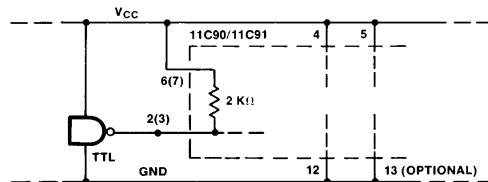

FIGURE 5. Using Internal Pull-Up with TTL Source
**Note 4:** The M1 and M2 threshold specifications are normally referenced to the VCC potential, as shown in the ECL operation tables. Using VEE (GND) as the reference, as in normal TTL practice, effectively makes the threshold vary directly with VCC. Threshold is typically 1.3V below VCC (e.g., +3.7V at VCC = +5V). A signal swing about threshold of ±0.4V is adequate, which gives the state VIH and VIL values. The internal 2 kΩ resistors are intended to pull TTL outputs up to the required VIH range, as discussed in the Functional Description and shown in Figure 5.
When an M input is to be driven from a TTL output operating from the same  $V_{CC}$  and ground ( $V_{EE}$ ), the internal 2 kΩ resistor can be used to pull the TTL output up as shown in Figure 5. Some types of TTL outputs will only pull up to within two diode drops of  $V_{CC}$ , which is not high enough for 11C90 inputs. The resistor will pull the signal up through the threshold region, although this final rise may be somewhat slow, depending on wiring capacitance. A resistor network that gives faster rise and also lower impedance is shown in Figure 6.